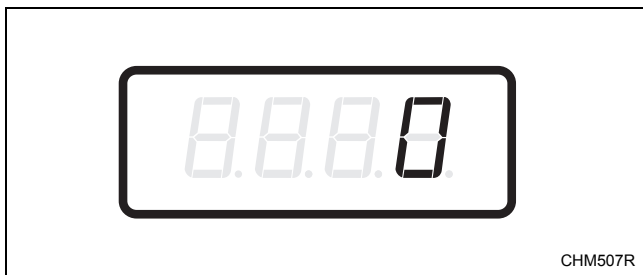

Figure 10
4. When “dEn1” appears in the display, press the START (enter) keypad. There are five digits in the Coin #1 Value. The fifth digit will appear in the display and will flash one (1) second on, one (1) second off. Refer to *Figure 10*.